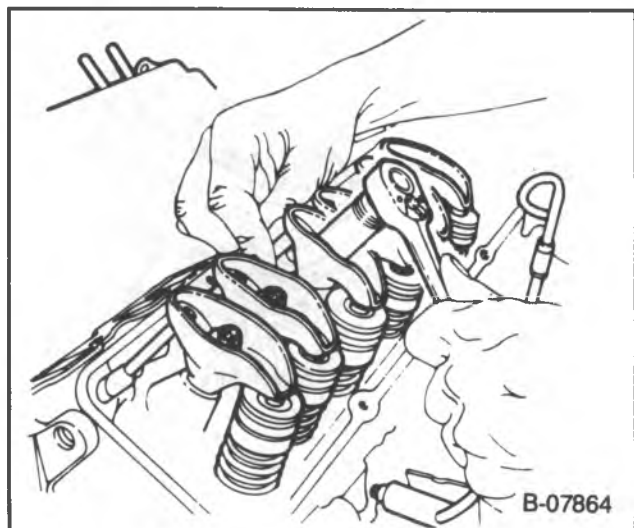

Figure 4 — Adjusting the Valves
4. Back out the adjusting nut until lash is felt at the pushrod then turn in the adjusting nut until all lash is removed. This can be determined by rotating the pushrod while turning the adjusting nut (figure 4). When the play has been removed, turn the adjusting nut in one full additional turn (to center the lifter plunger).